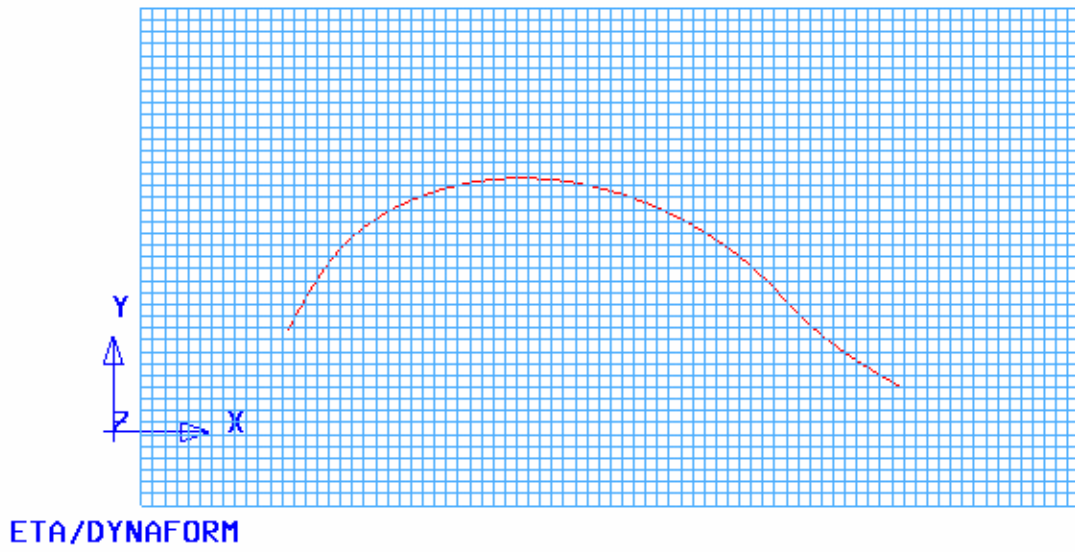

Figure 6.5.15 Select Drawbead Outline
- Select a line as illustrated in Figure 6.5.15.